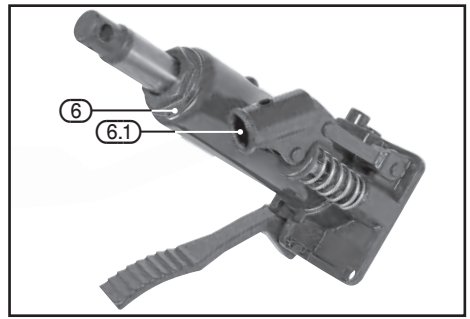

FIG.1
8.1 FITTING THE HYDRAULIC UNIT & FOOT PEDAL – FIGS.1 – 3